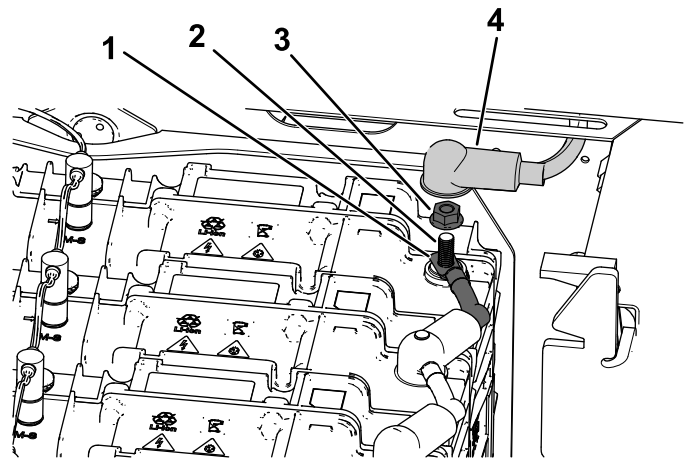

Figure 42
2. Remove the flange nut and negative (–) battery cable from the battery post (Figure 42).
1. Secure the negative (–) battery cable to the battery post using the flange nut (Figure 42).
2. Install the negative (–) battery terminal boot over the battery post (Figure 42).